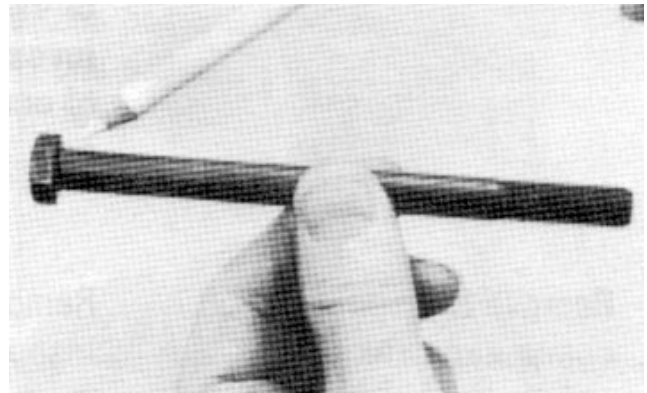

Figure 33
1. Inspect bolts (14) for damaged threads and sealing rings under the bolt head. Replace if damaged (Fig. 33).
**Note:** A polished pattern (not scratches) on the cover from rotation of the commutator (16) is normal. Discoloration would indicate excess fluid temperature, thermal shock, or excess speed and require system investigation for cause and close inspection of end cover, commutator, manifold, and rotor set.